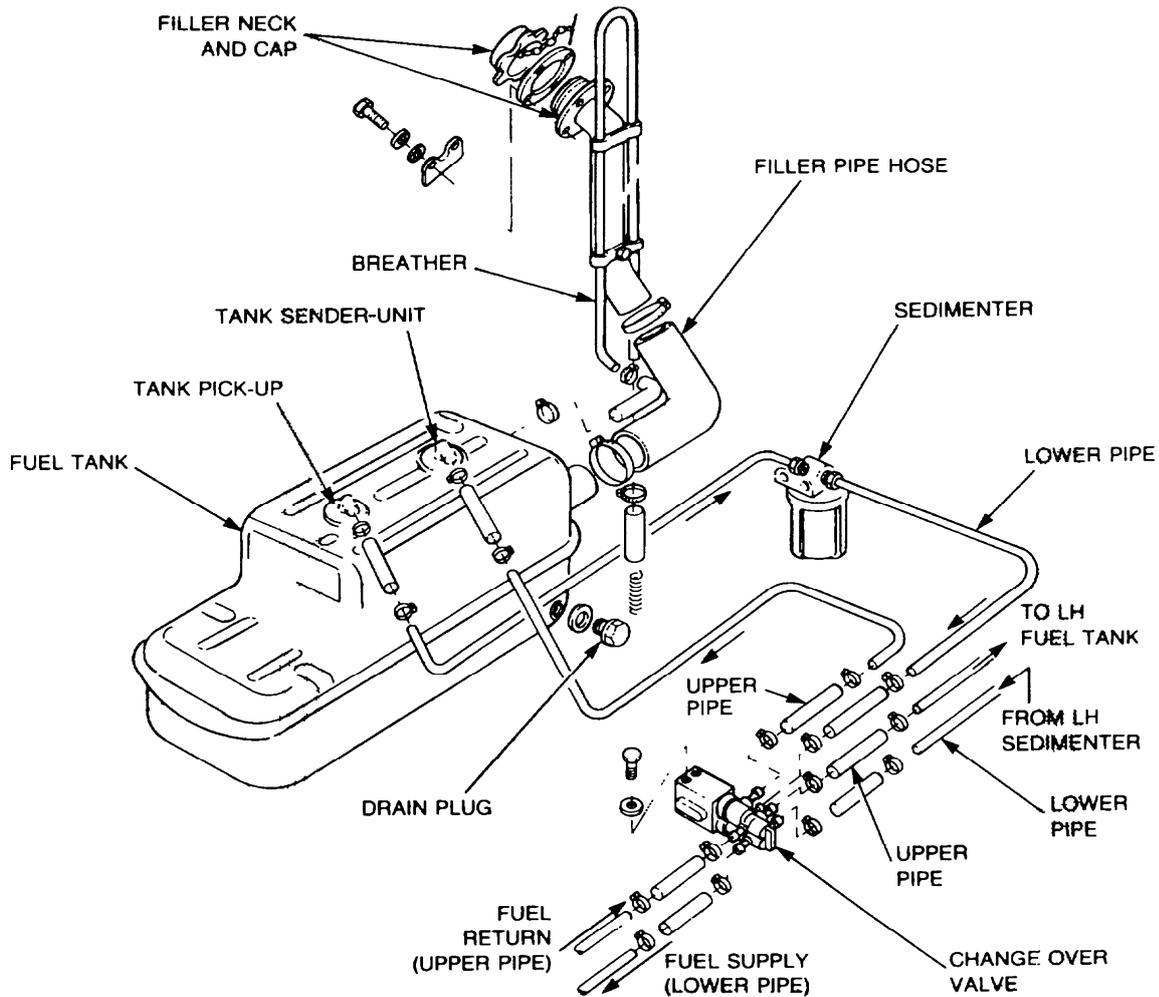

Figure 21 Fuel Tank (Right Side) Exploded View
- b.** Remove the hexagonal head drain plug from the fuel tank (Figure 21).
The fuel tank change over valve is shown in two parts to clarify the pipe layout, but read in conjunction with Figure 21.
- a. Position the return fuel line along the chassis rail, then connect the line to the sedimenter housing and to the fuel return pipe on the engine (Figure 21).
- c. Position the supply fuel line along the chassis rail, and then connect the line to the tank sender unit and the fuel transfer pump (Figure 21).